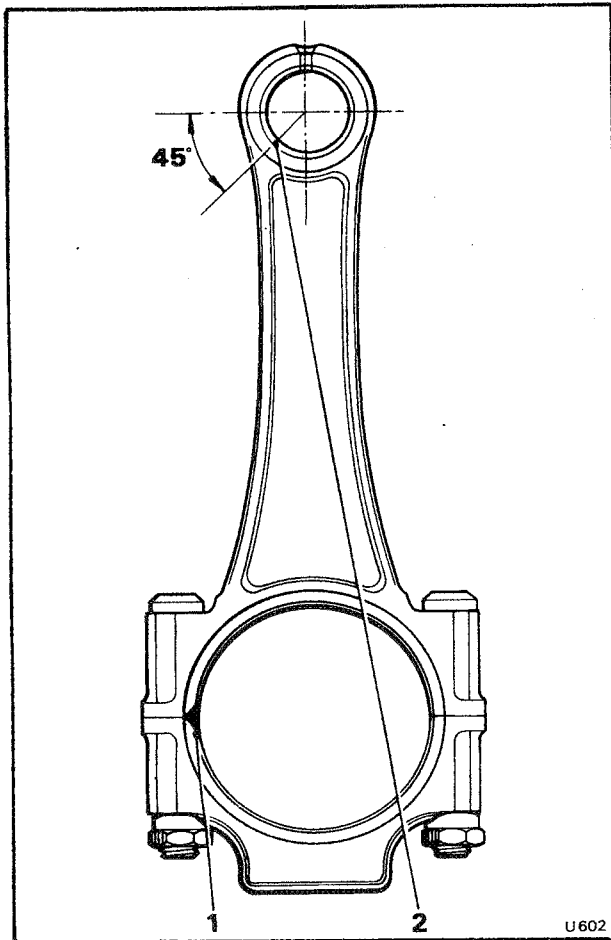

Fig. E21 Position of small end bush
9. Place the cap onto the rod, ensuring that the two tangs are on the same side of the crankpin (see Fig. E21).
7. Position the new bush so that the chamfered edge is towards the connecting rod. Also ensure that the split in the bush is 45° away from the centre axis of the rod and on the same side of the rod as the locating recesses for the big-end bearing shells (see Fig. E21). In this position the oil hole in the bush should line up with the oil hole in the small-end boss.